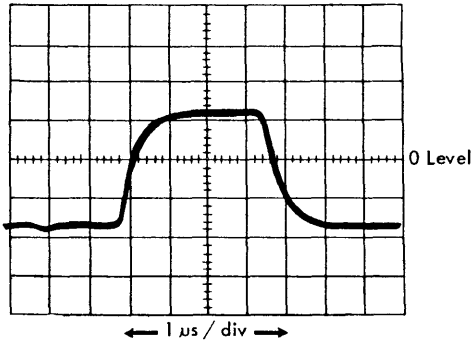

Figure 6. Process Unit Clock  $\phi B$  (1Xb)  $3.5 +.25, -0 \mu s$
$\phi B$  pluggable unit 1W2 (1.01.01) (See Figure 6):
2. Observe  $\phi B$  pulses at 1Xb (1.01.01) (See Figure 6).